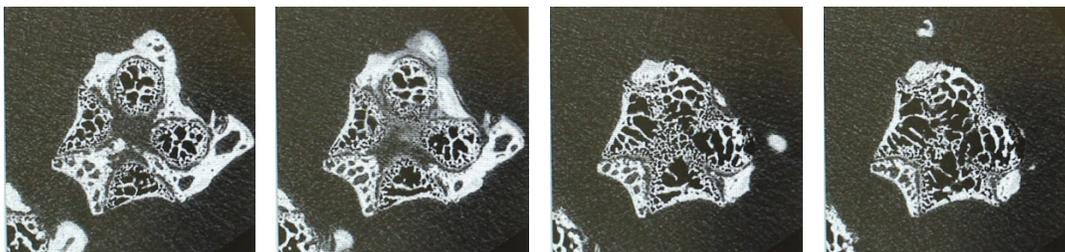

Figure 4. *The progression of the metaphyseal growth plate disappearing to make way for the metaphyseal region.*
3. To do so, we look for the following progression, illustrated in Figure 4: